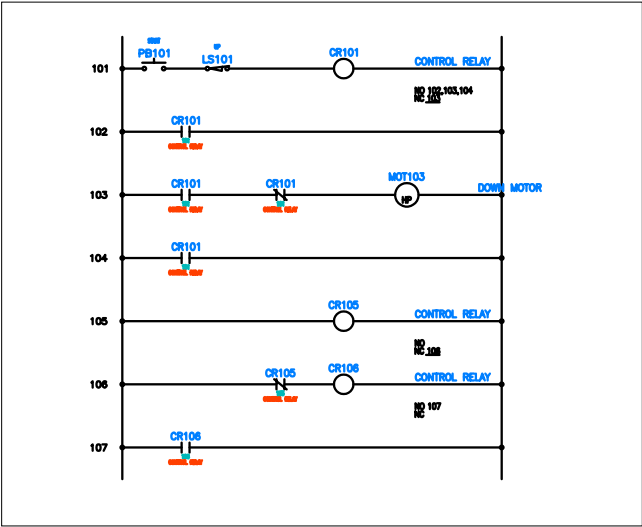

Figure 6-56 Components inserted in the drawing
- After entering description and other information in the **Insert / Edit Component** or **Insert / Edit Child Component** dialog box, choose the **OK** button; the components are inserted in the drawing, as shown in Figure 6-56.